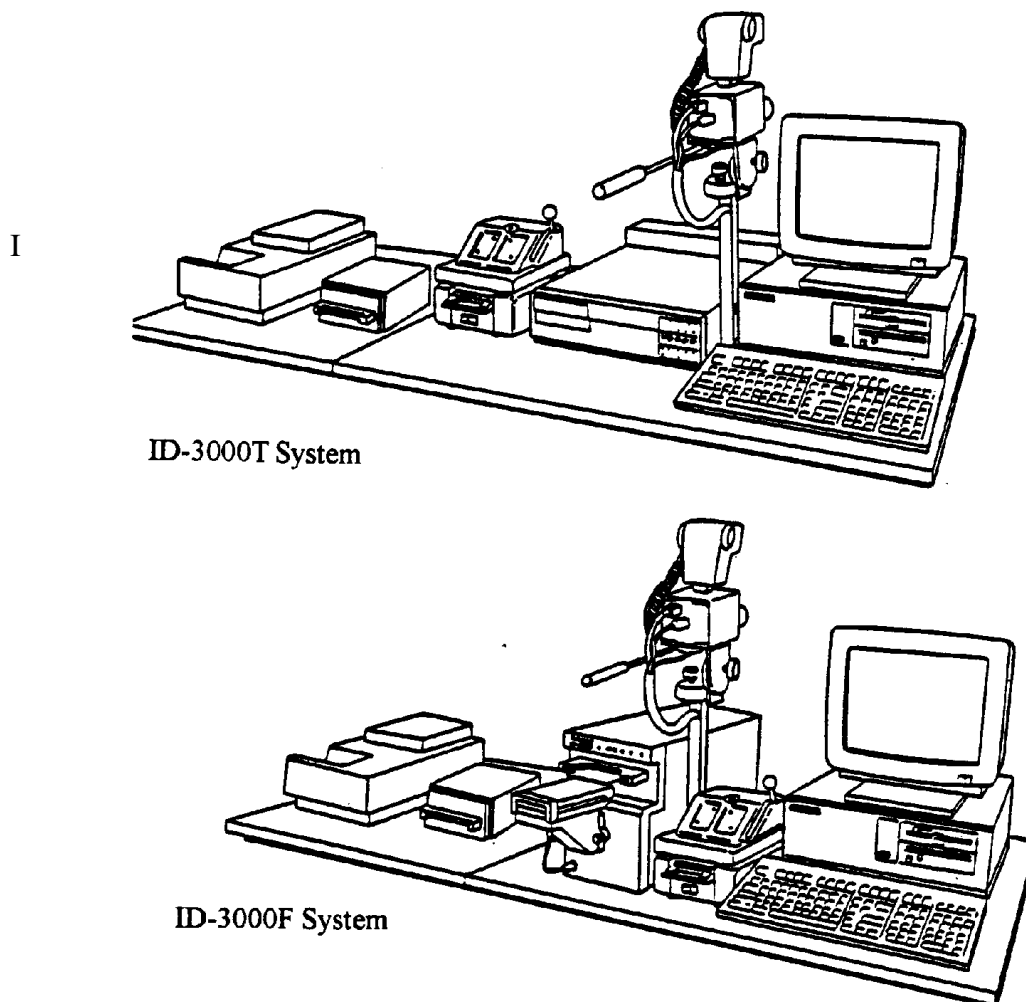

Figure 2-2 Optimal ID-3000 system setup
1. Carefully unpack all system components (computer, keyboard, monitor and swivel base, portrait camera, strobe, thermal printer & power supply assembly (3000T system) or color film recorder & power supply assembly (3000F system), signature scanner (optional), color scanner (optional), power outlet strip, die cutter and laminator), and place them as shown in Figure 2-2 or some comparable arrangement.
NOTE: Figure 2-2 shows an optimal ID-3000 system arrangement.